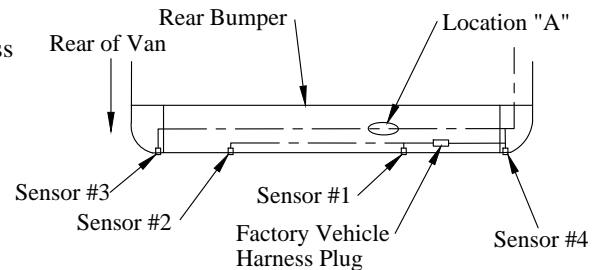

Figure 2: Factory vehicle wire harness.
2. **Unplug** and **Remove** wire harness for sensors #1 and #2 from vehicle harness in bumper (Figure 2).
3. **Remove** and **Save** sensors #1, #2, and #3 from vehicle harness (Figure 2).
- 1. Feed** the vehicle plug end of the new sensor harness through the secondary sensor bar mounting brackets. Start at the van center and stop at the factory vehicle harness plug (Figures 2 and 7).
- 6. Follow** vehicle harness from sensor #3 until you reach location "A", near sensor #1 and **Cut** the harness. Leave enough length to complete the next step (Figure 2).